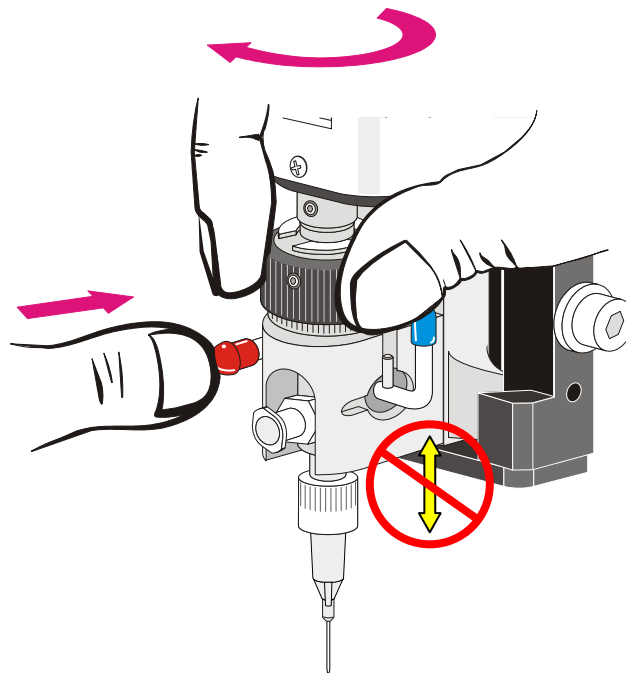

Figure 4-5 Setting the Bearing Preload
9. Apply the proper bearing preload by pressing the red clutch lock release while lightly rotating the clutch cap two or three times to the left (clockwise) until the clutch engages the cartridge. See Figure 4-5.
10. After the clutch has reached its set preload, verify that there is no axial movement between the cartridge and the valve body. See Figure 4-5. Reset preload if necessary.